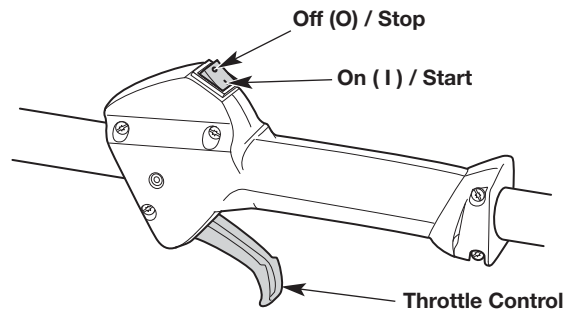
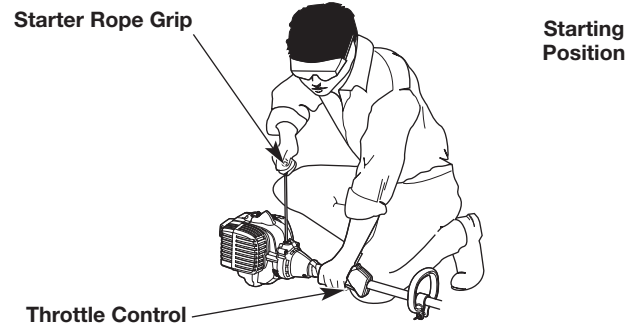

Fig. 6
Fig. 8
**WARNING:** Avoid accidentally starting the unit. To avoid serious injury, the operator and the unit must be in a stable position when pulling the starter rope (Fig. 8).
**NOTE:** There is no need to turn the unit on. The On/Off switch is in the ON (I) position at all times (Fig. 6).
5. Crouch in the starting position (Fig. 8).
6. Squeeze the throttle control (Fig. 6) and pull the starter rope with a controlled and steady motion **5 times** (Fig. 8).
2. Press and hold the On/Off switch in the OFF (O) position until the engine comes to a complete stop (Fig. 6).
7. Squeeze and hold the throttle control (Fig. 6). Run the electric start accessory for 2 seconds.